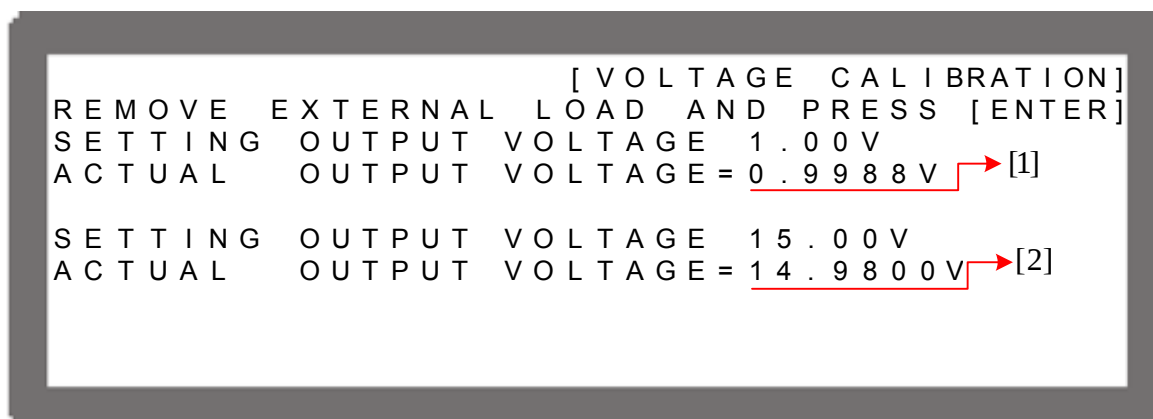

Figure 3-100
5. First does the low voltage range calibration (16V), the instrument will set the output voltage to 1.00V and the cursor is stopped at position [1] as Figure 3-100 shows. Enter the voltage measured by DVM (4 digits after decimal point) and press “” to confirm.
6. Press “” again to do the low voltage range calibration for its second point, the instrument will set the output voltage to 15.00V and the cursor is stopped at position [2] as Figure 3-100 shows. Enter the voltage measured by DVM (4 digits after decimal point) and press “” to confirm.
2. It is necessary to remove the output load when performing voltage calibration. The LCD panel will show the text as Figure 3-100 and once no load is confirmed for the output, press “” to start calibration.